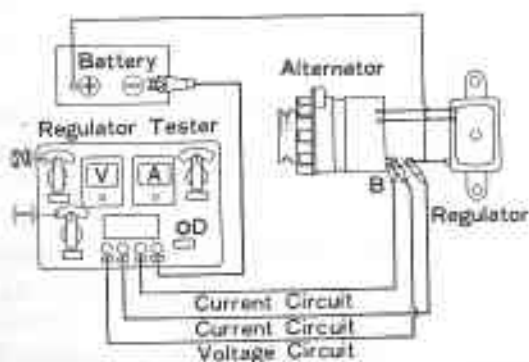

Fig. 8-4 Test Circuit
7. Perform the load test in the following manner. Make the same connection as shown in figure 8-4, and start the engine, and run it at approximately 1,100 rpm with all lights and accessories turned on. The ammeter should indicate more than 35 amperes on the RT series, and more than 25 amperes on the Light Truck series with the voltage of 13.5 to 14.5 volts. If the ammeter indicates less than the specified amperage, the rectifier or stator coil is shorted or opened. If the battery is in full charged state and the amperage reading is less than the specified amperage.